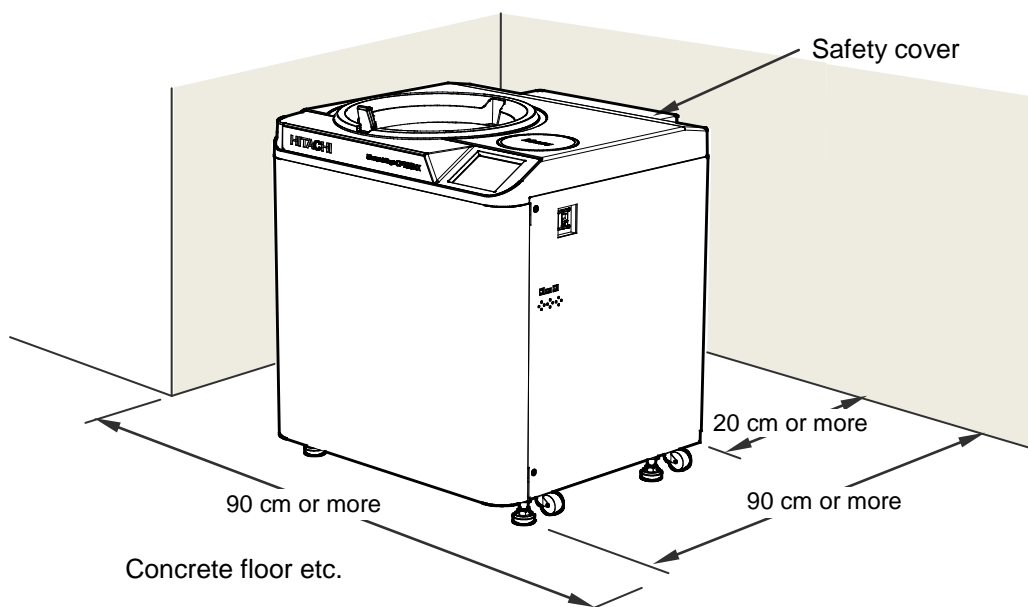

Fig.6-1 Place of installation
- (1) Install the ultracentrifuge on a concrete, stone, or hardwood floor. Avoid such places as soft floor, carpeted floor transmitting external vibrations to the ultracentrifuge.
- (2) Ambient temperature for operation is 2 to 40°C. If the room temperature rises above 30°C, the temperature of the rotor may become too high. Avoid installing the ultracentrifuge in direct sunlight or installing it at the place whose ambient temperature is higher than 30°C.
- (3) The ultracentrifuge requires a clearance of more than 20 cm at its rear and a floor space of at least 90X90cm (See Fig.6-1). Ensure the surrounding of the instrument has a free circulation of air. Avoid installing the ultracentrifuge near any other heat-generating machine/equipment, which might reduce the ultracentrifuge cooling capacity.